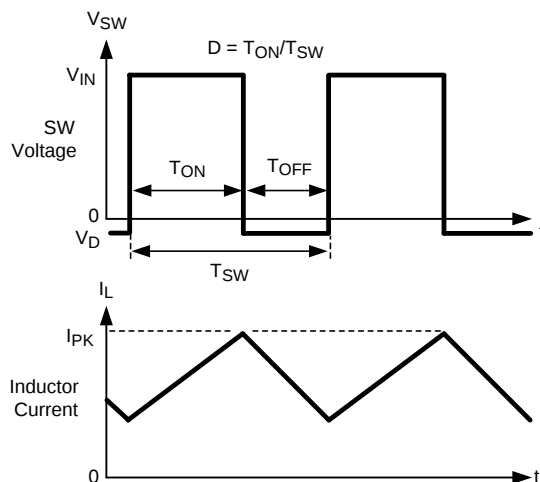

Figure 18. Typical Waveforms
The following operating description of the LM2830 device will refer to the Simplified Block Diagram (Functional Block Diagram) and to the waveforms in Figure 18. The LM2830 device supplies a regulated output voltage by switching the internal PMOS control switch at constant frequency and variable duty cycle. A switching cycle begins at the falling edge of the reset pulse generated by the internal oscillator. When this pulse goes low, the output control logic turns on the internal PMOS control switch. During this on-time, the SW pin voltage (V_{SW}) swings up to approximately V_{IN} , and the inductor current (I_L) increases with a linear slope. I_L is measured by the current sense amplifier, which generates an output proportional to the switch current. The sense signal is summed with the regulator's corrective ramp and compared to the error amplifier's output, which is proportional to the difference between the feedback voltage and V_{REF} . When the PWM comparator output goes high, the output switch turns off until the next switching cycle begins. During the switch off-time, inductor current discharges through the Schottky catch diode, which forces the SW pin to swing below ground by the forward voltage (V_D) of the Schottky catch diode. The regulator loop adjusts the duty cycle (D) to maintain a constant output voltage.